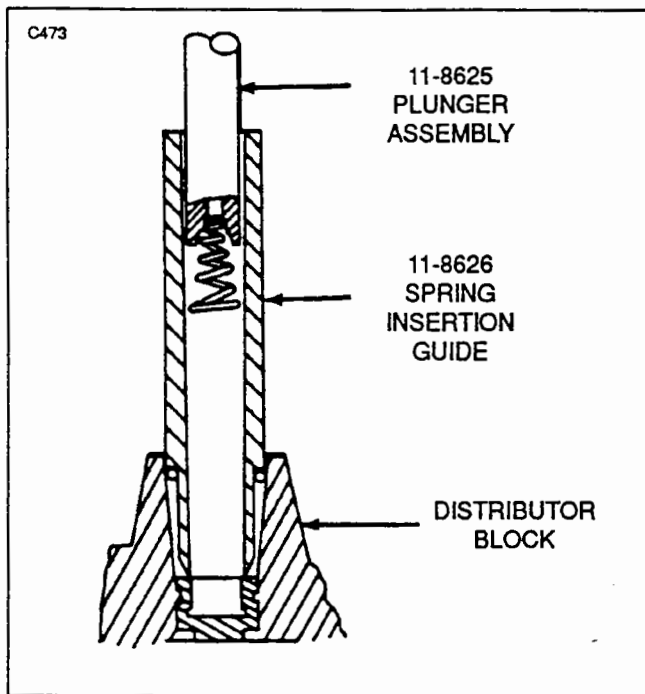

Figure 74-28. Position of 11-8627 Kit and Contact Spring at Start of Installation
- 6. When lead being replaced is of the elbow type, salvage the used elbow and compression springs for installation on replacement lead. Install these and new sleeve and contact spring (refer to Figures 74-28 and 74-29) furnished with replacement lead per instructions given in Steps I thru 4.